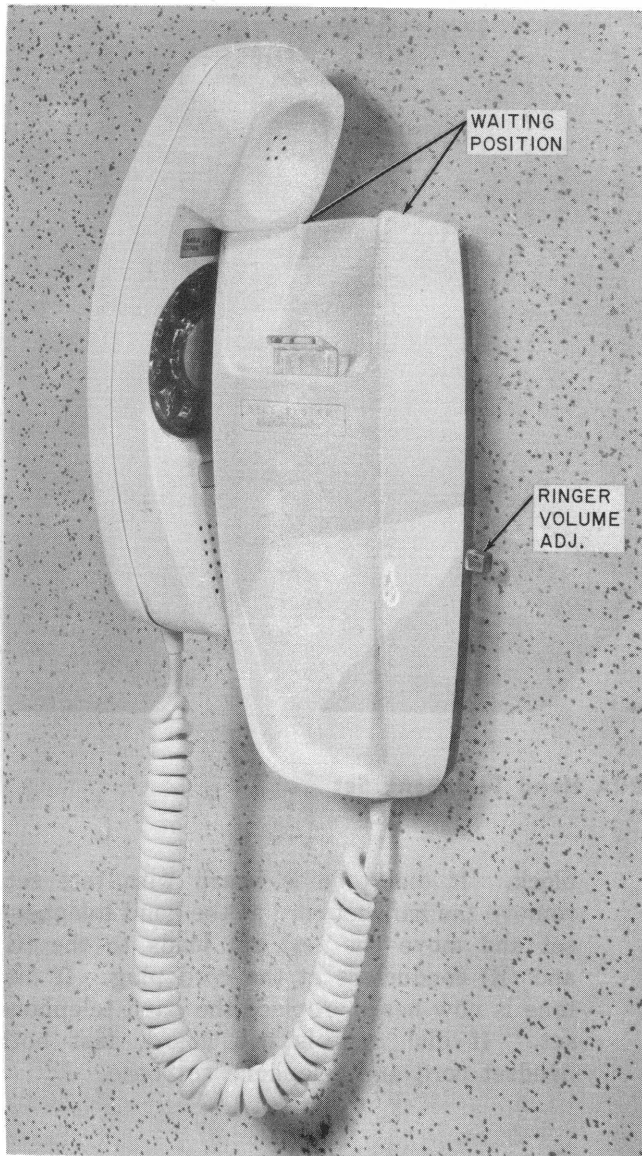

Fig. 5—220A Hand Telephone Set in Waiting Position on AC1 Telephone Base
- (c) **AC1 Telephone Base:** Show customer how to place 220A, 1220A, or 2220B hand telephone set in waiting position as shown in Fig. 5.